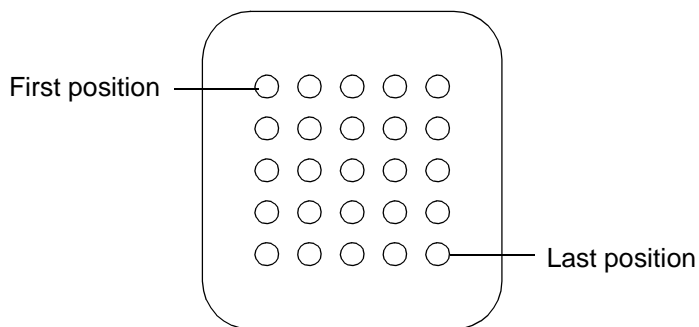
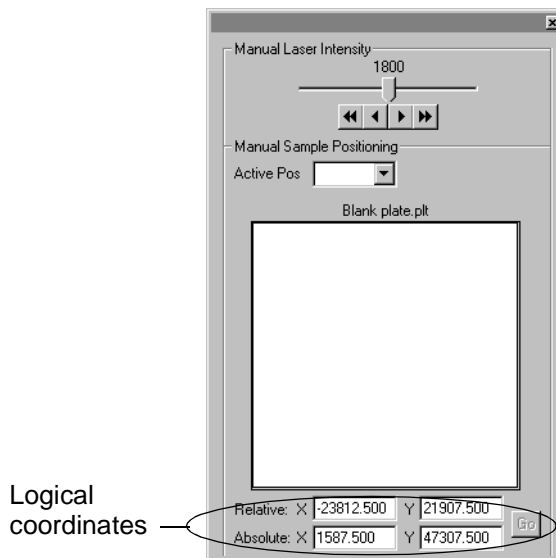

Figure 3-13 First and Last Positions for a .PLT File
Figure 3-14 Logical Coordinates in Plate View in Manual Laser/Sample Positioning Control Page
- If you are using the Create PLT File function to create the .PLT file, spot the first and last positions on the plate (Figure 3-13).
Figure 3-14 shows the Plate View displaying the logical coordinates for the BLANK.PLT file.
2. Use the Manual Laser/Sample Positioning control page (see Figure 3-14 on page 3-78) or the control stick to determine the center Absolute X and Y coordinates for the first and last positions on the plate for which you are creating the .PLT file (see Figure 3-13 on page 3-77).
3. Check the laser beam position on these sample positions as described in Figure 3-14 on page 3-78.